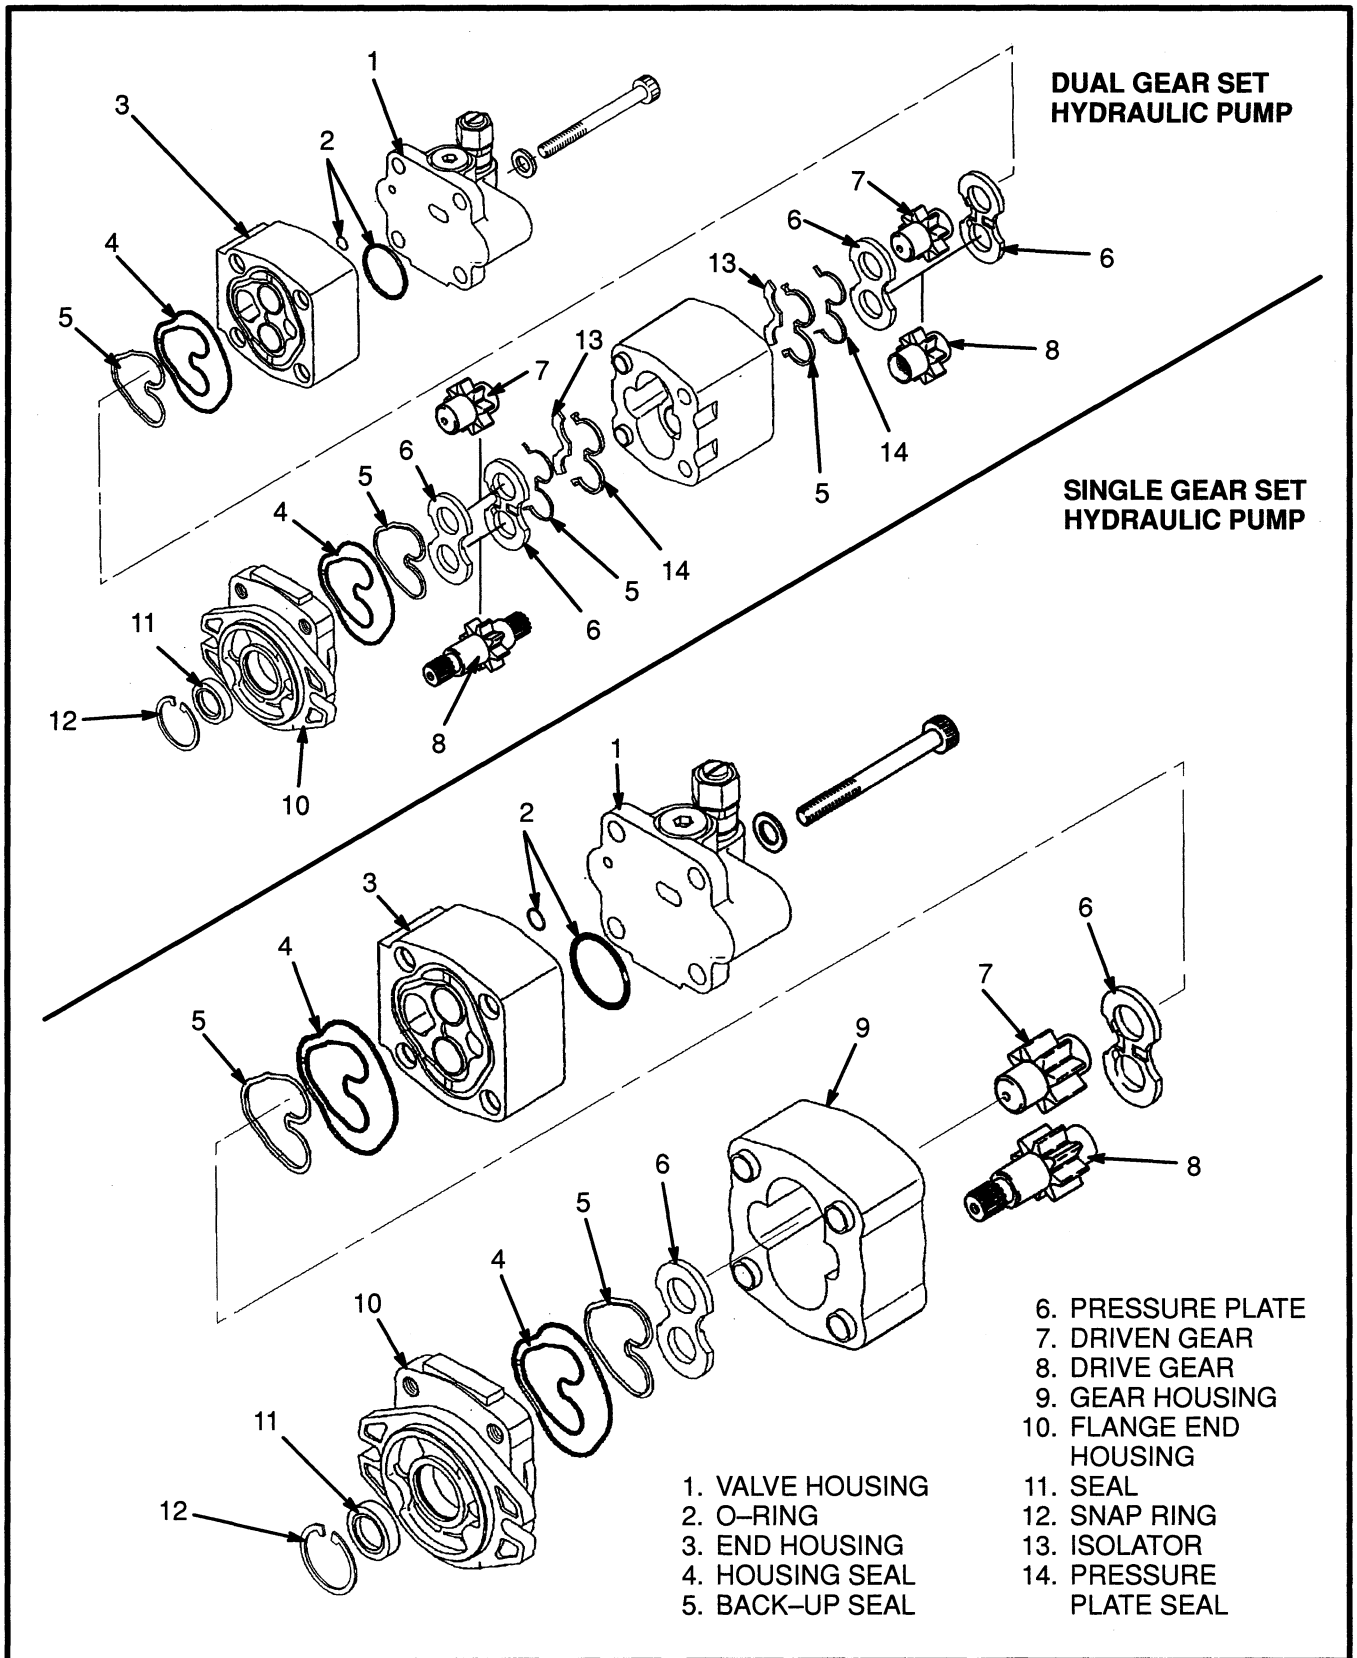
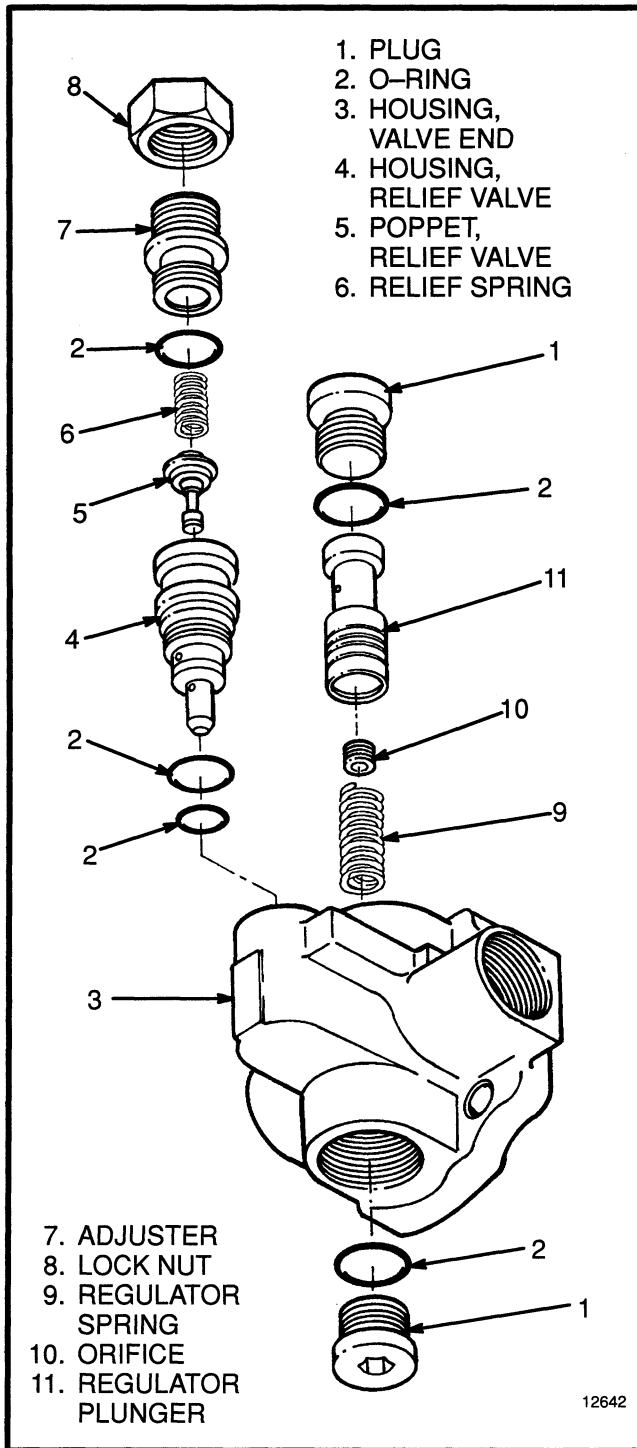
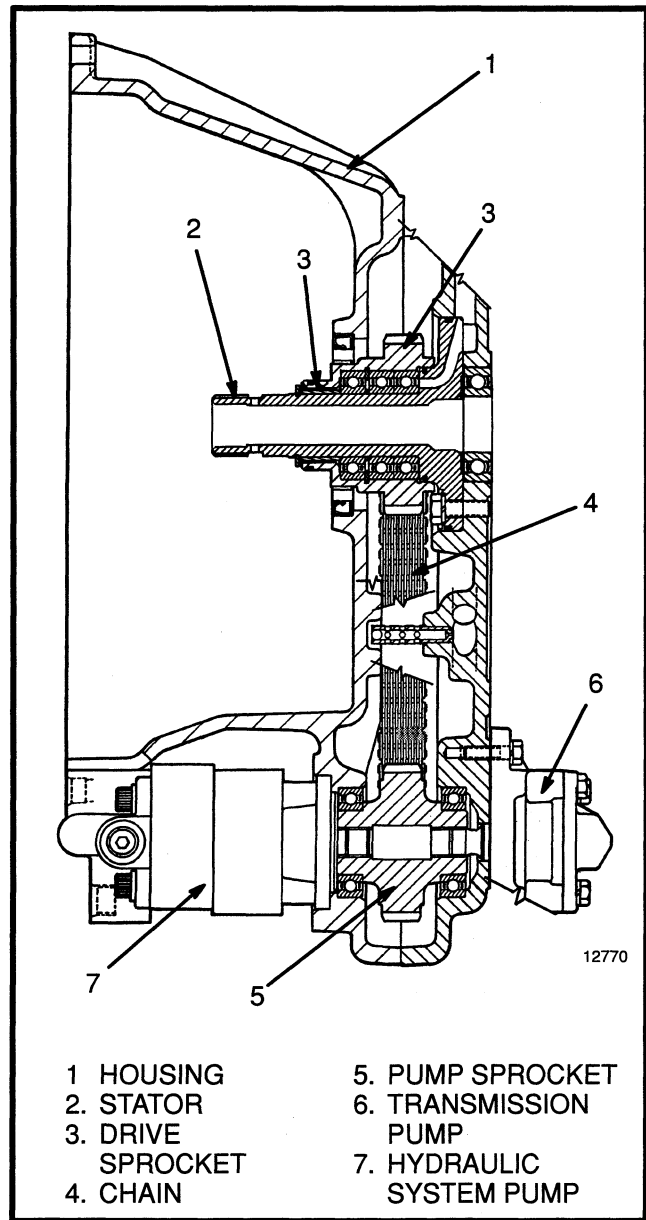

FIGURE 2. GEAR PUMP ASSEMBLY
FIGURE 3. FLOW CONTROL VALVE AND RELIEF VALVE PARTS
FIGURE 5. PUMP DRIVE ARRANGEMENT
**Gear Pump Assembly (See FIGURE 2.)**
The gear pump is driven by a chain drive arrangement in the transmission. The drive sprocket for the pump drive is connected by splines to the hub of the torque converter. The drive sprocket, in turn, drives the chain, the pump sprocket and the gear pump. See FIGURE 5.
### Flow Control Valve (See FIGURE 3.)
### Relief Valve (See FIGURE 3.)
### Gear Pump (See FIGURE 2. and FIGURE 4.)
### Removal and Disassembly (See FIGURE 2., FIGURE 3. and FIGURE 5.)
8. See FIGURE 3. Remove the plugs and O-rings at each end of the flow control valve. Remove the regulator plunger and spring.
9. See FIGURE 3. Remove the lock nut (8) from the adjuster (7). Remove the adjuster and parts of the relief valve. Remove the relief valve housing (4).
### Assembly and Installation (See FIGURE 2., FIGURE 3. and FIGURE 5.)
2. See FIGURE 3. Install the bottom plug and O-ring for the regulator plunger (11). Install the orifice (10) in
3. See FIGURE 3. Install the O-rings on the relief valve housing (4). Install the relief valve housing in the valve end housing. Install the relief valve poppet (5) and spring (6). Install the O-ring, adjuster (7) and lock nut (8). Do not tighten the adjuster or lock nut until the setting is adjusted as described in CHECKS AND ADJUSTMENTS.